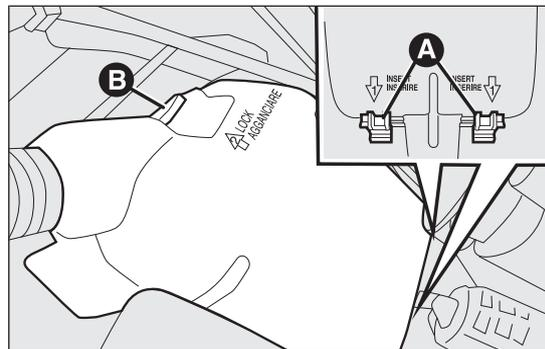

fig. 161
- insert the two tabs A fig. 161 in the respective seats located on the fuse box;